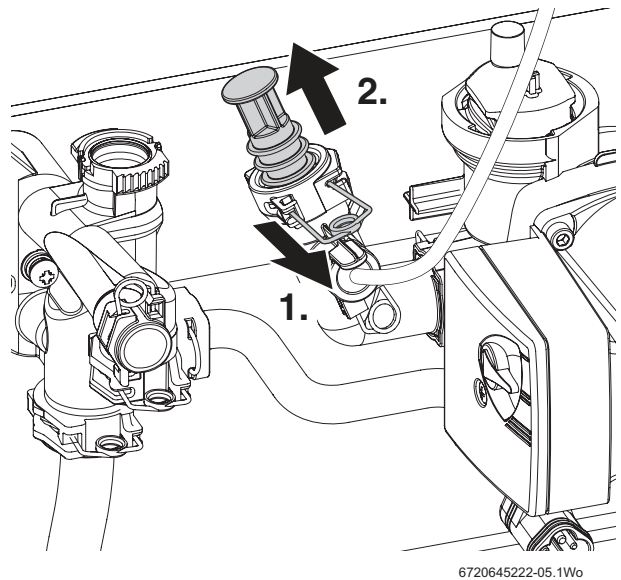

Fig. 8 Blanking plug removal
1. Refer to figure 8, release the retaining clip.
2. Remove and discard the orange plastic blanking plug (2) from the pressure vessel connection at the hydraulic manifold.